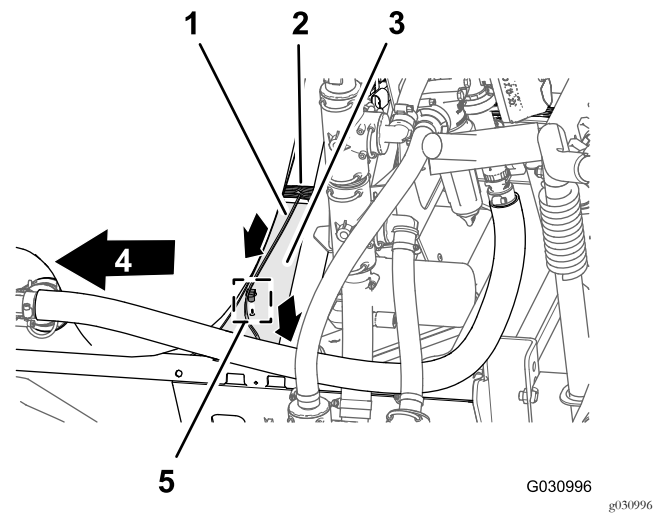

Figure 127
1. Route the 86 cm (34 inches) wire harness branch for the spray-pump solenoid across the top of the sprayer frame channel and down toward the sprayer-pump solenoid (Figure 127).
2. Insert the fir-tree anchor of the 86 cm (34 inches) wire harness branch into the hole in the sprayer frame channel (Figure 127).